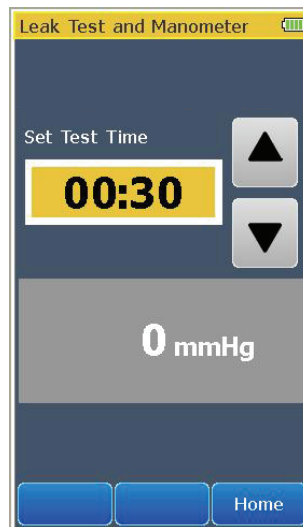

Figure 13. Leak Test Screen
2. Touch the **Leak Test and Manometer** control to show the screen shown in Figure 13 in the display.